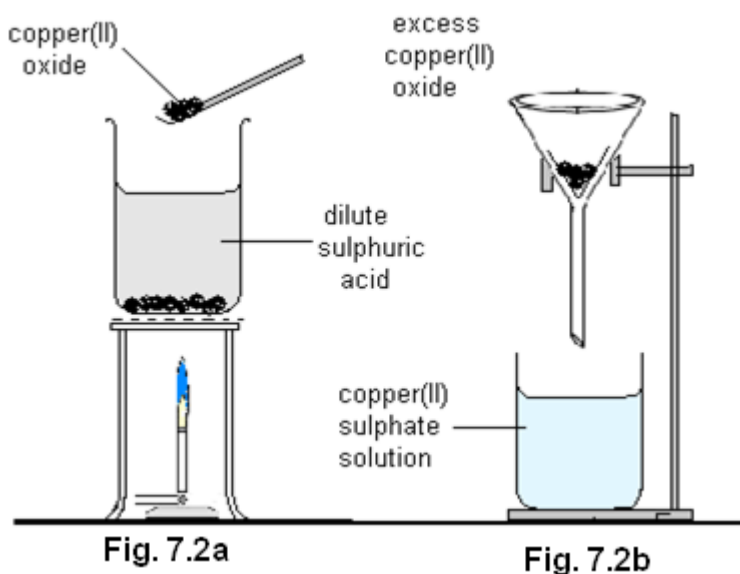

Figure 7.2: Showing preparation of copper(II) sulphate crystals
2. Using a spatula, add copper(II) oxide to the hot acid a little at a time with constant stirring until the solid can no longer dissolve. What do you observe?
3. Filter off the excess copper(II) oxide and collect the filtrate in a separate beaker shown in Figure 7.2 (b). What is the colour of the filtrate?
6. Make a 50% copper(II) sulphate solution and use it for dressing seeds.
2. Add about 60cm³ of dilute sulphuric acid into a beaker containing barium nitrate solution as in Figure 7.2.